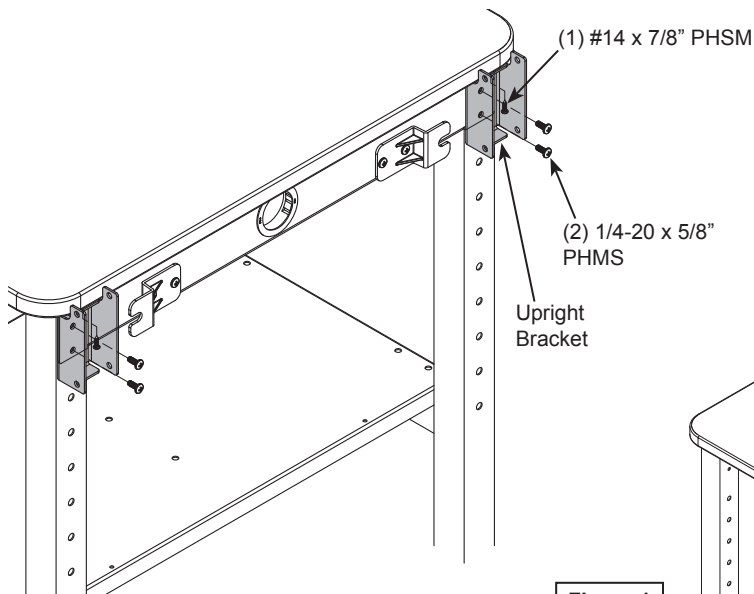
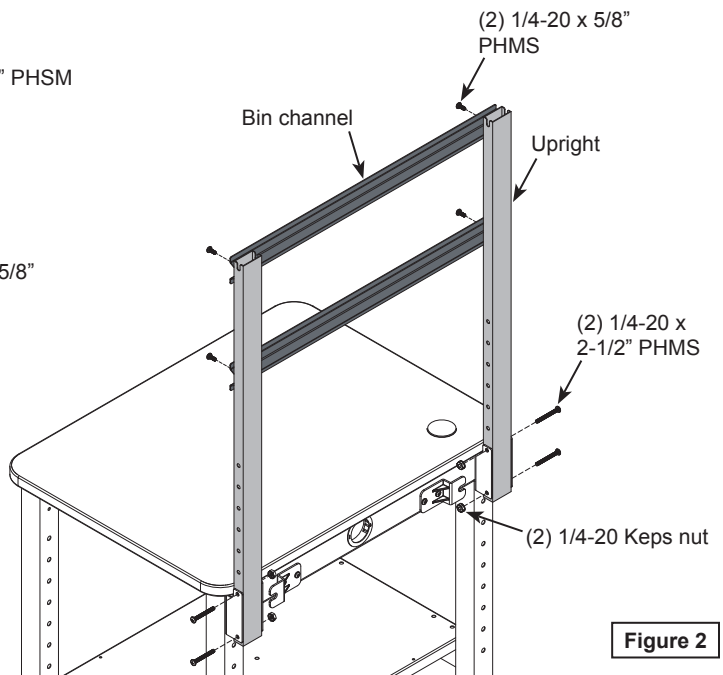

Figure 1
Figure 2
1. Install each upright bracket to the back of the unit as shown with (2) 1/4-20 x 5/8" PHM screws. **Figure 1.** If existing screws have already been installed into the legs here-please remove.
2. Install (1) #14 x 7/8" PHSM screw through each bracket into the worksurface.
4. Install each upright at the desired height with (2) 1/4-20 x 2-1/2" PHMS and (2) 1/4-20 Keps nuts. **Figure 2.**
5. Attach each bin channel at the desired height with (2) 1/4-5/8" PHM screws.